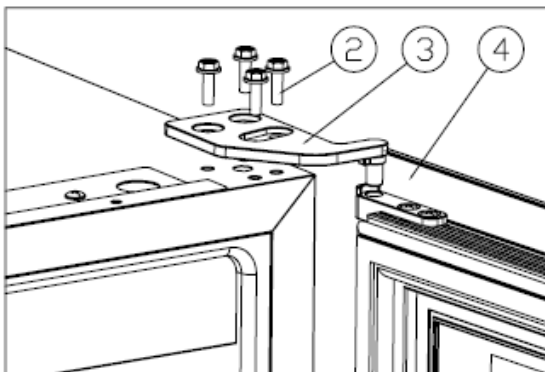

Figure 1
- ✧ Unscrew the M5*16screws(②), dismantle the right upper hinge, and remove the door. [Figure 1].